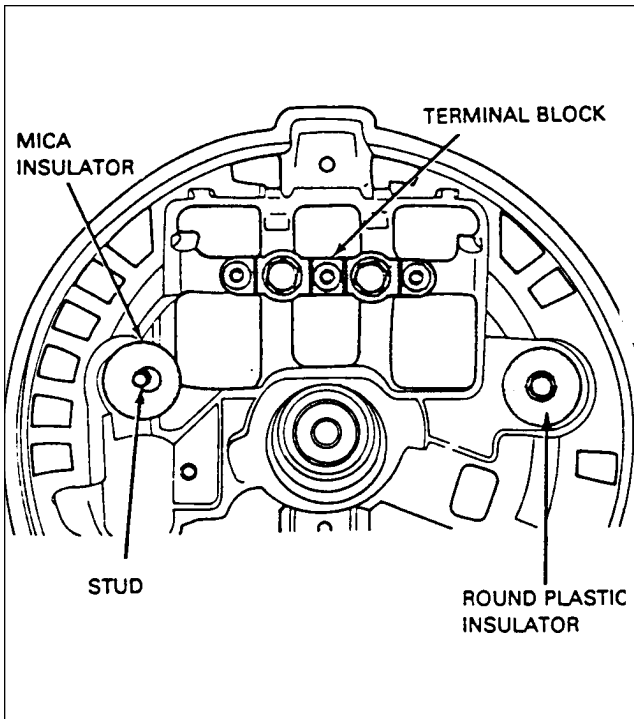

Figure 24-22. Installation of Insulators
7. Install round plastic insulator, flat face up, in battery stud hole in end shield. (Refer to figure 24-22.)